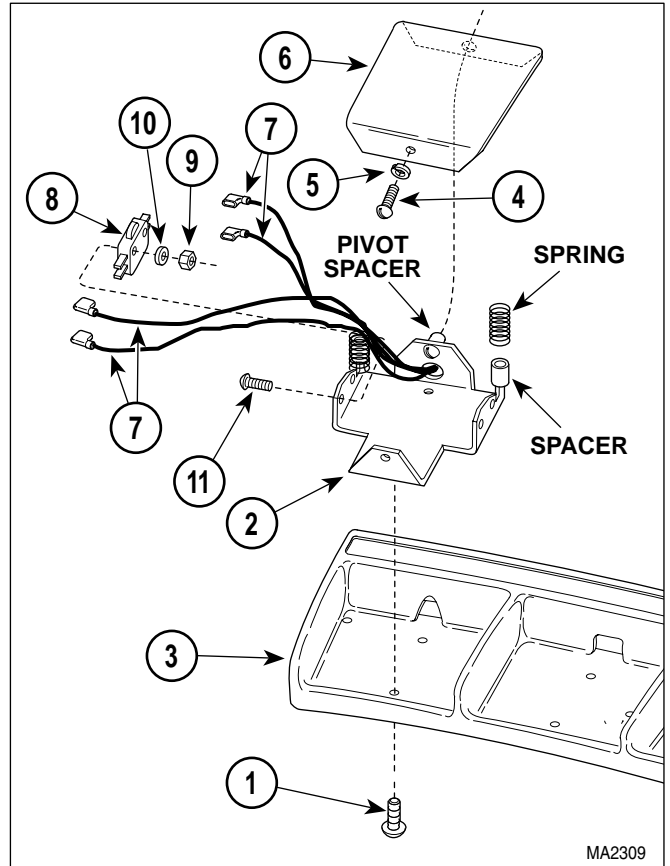

Figure 4-34. Typical Foot Switch Removal / Installation
- (1) Unplug table power cord from outlet.
- (2) Remove two screws (1, Figure 4-34) and partially separate foot switch bracket (2) from foot control casting (3).
- (3) Remove screw (4), spacer (5), and pedal (6) from foot switch bracket (2).
- (4) Tag and disconnect four wires (7) from terminals of foot switch (8).
- (5) Remove two nuts (9), washers (10), screws (11), and foot switch (8) from foot switch bracket (2).